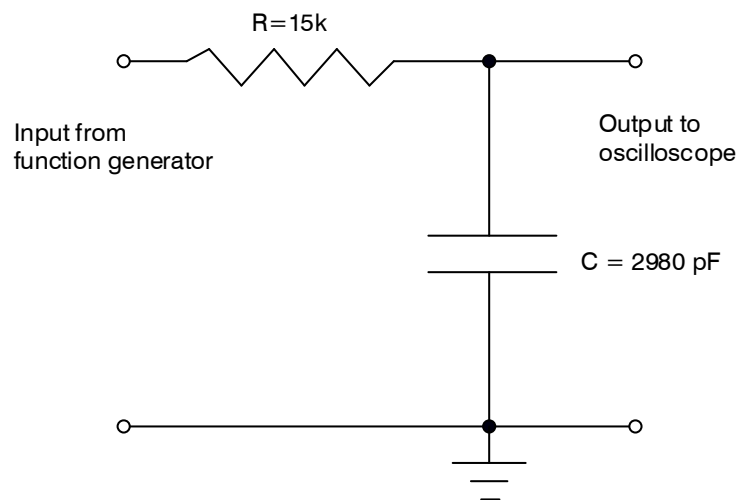

FIG. 2 RC circuit used to demonstrate transient behavior and time constant measurements.
8. Transient Behavior: Construct the circuit shown in Fig. 2. Use the Simpson 420 Function Generator to produce a 5 V *square* wave at 1 kHz. Use the DC OFFSET knob to make it go from 0V to +5V. Determine the time constant for the exponential rise (time to 63% of maximum) and fall (time to 37% of minimum) and compare to the theoretical prediction that $\tau = RC$.